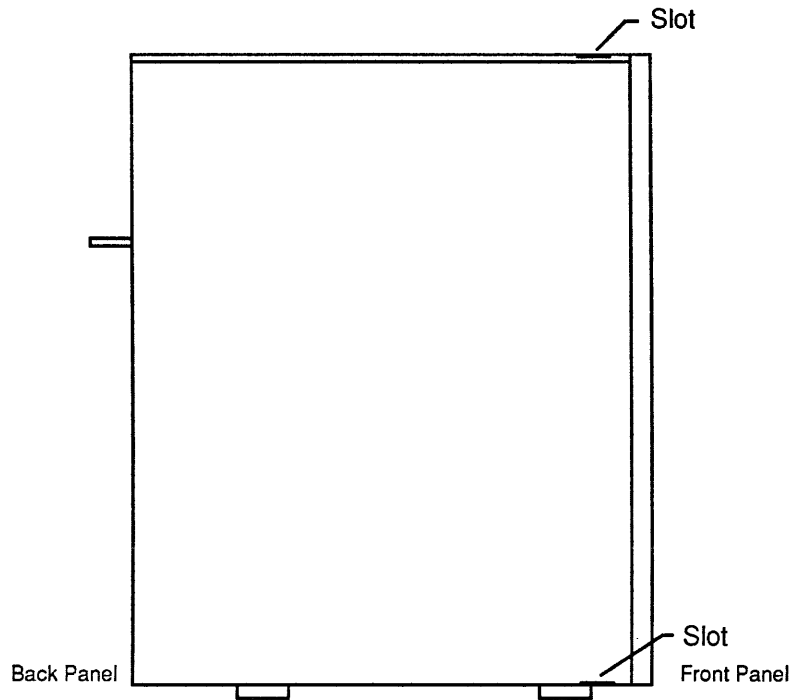

Figure C.2. Location of Latching Tab Slots
3. Slide the side panel towards the back of the Expansion Cabinet about one inch. Then, lift the side cover from the Cabinet. The latching tabs located on the top and bottom, front edges of the side panel must clear the other half of the latching assemblies before the side panel can be removed. Refer to Figure C.2.